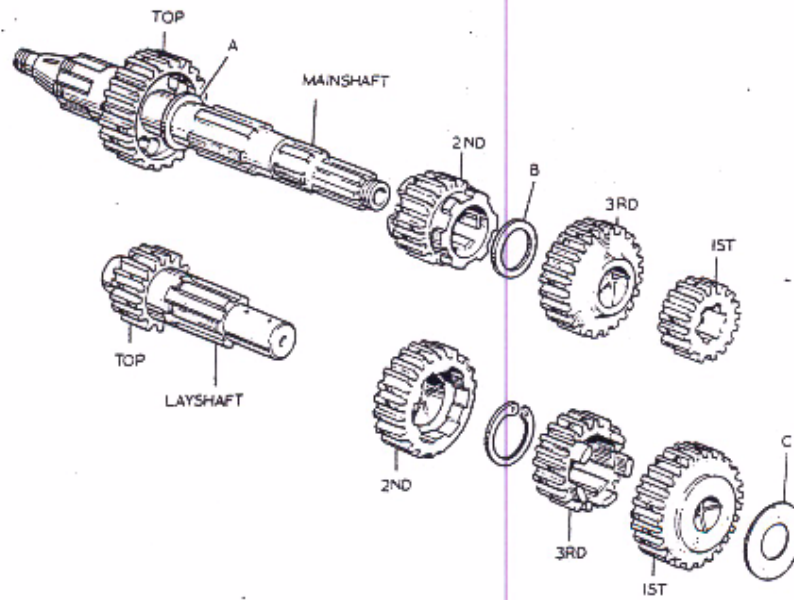

Fig. B29. Gear cluster exploded
Holding the cover face down, place the layshaft low gear with its shim (C) Fig. B29, and sliding gear (third) in position on the cover. Fit its selector fork, the roller being located in the lower cam plate track.
A thrust washer (D) is fitted to the driveside end of the layshaft when there should be just perceptible end float. The mainshaft, being locked to the inner cover, does not need checking for end float but excessive movement between the gears and the ends of the splines must be corrected by fitting the appropriate spacers. See Fig. B29 for position of each spacer, the thicknesses and part numbers of which are as follows:—